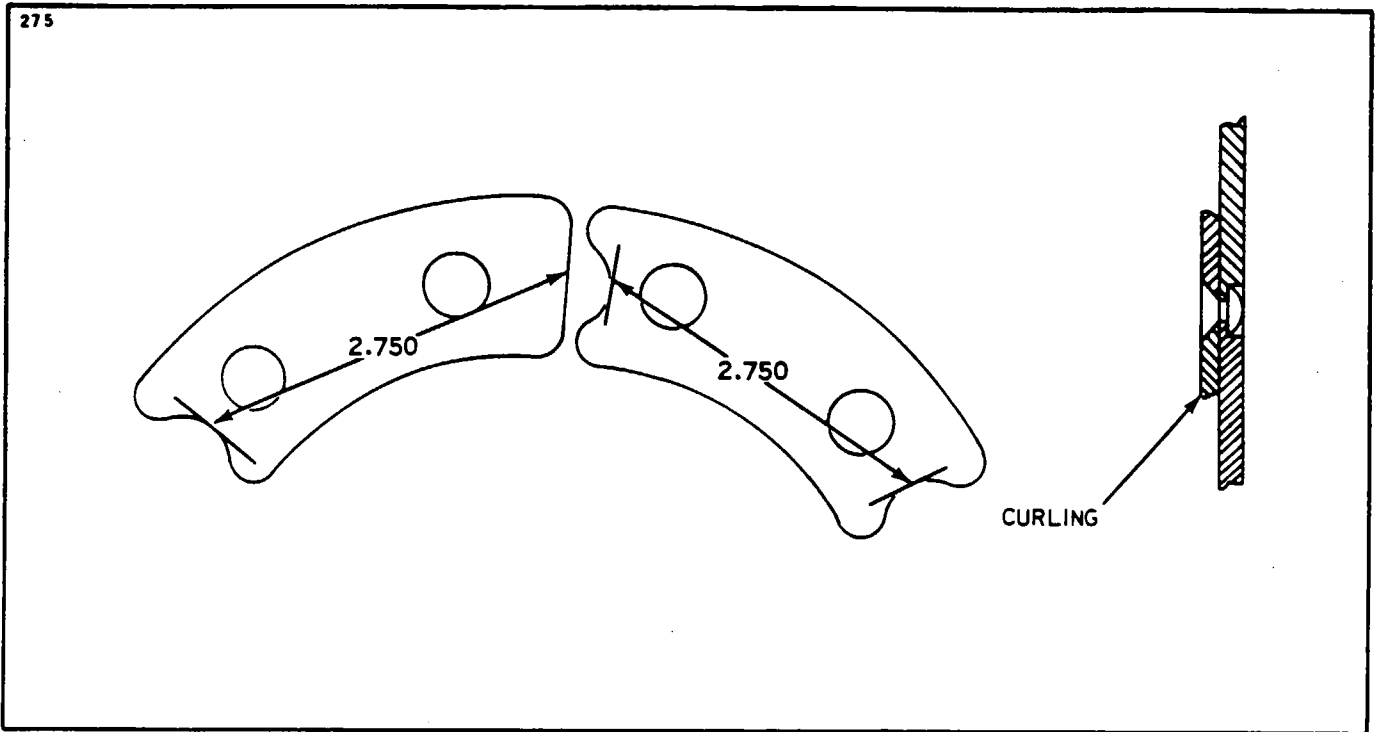

Figure 7-30. Wear Pad - Wear Limits
4. After repadding, grind the wear padded sub-assembly to the thickness as shown in Figure 7-30.